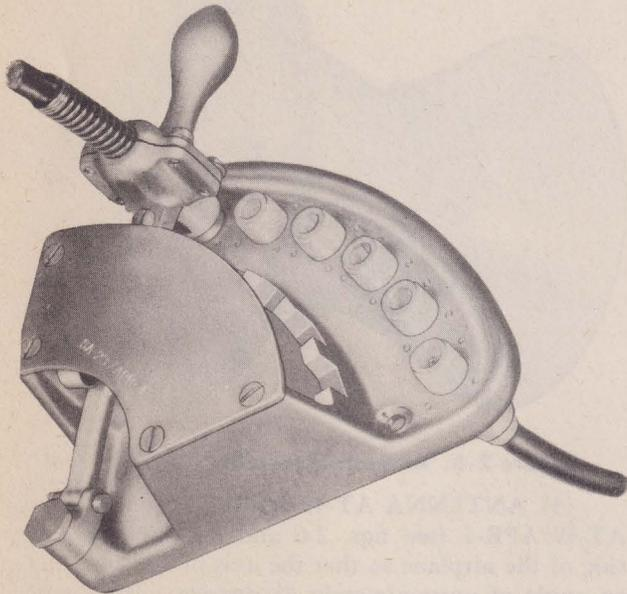

Figure 2-9. Switching Assembly SA-23/APR-4—
(6) ANTENNA STUB AT-38/APT.—Mount Antenna Stub AT-38/APT on the underside of the airplane so that the axis of the stub makes an angle of approximately 45 degrees with the horizontal. When two antennas are used they should be mounted on opposite sides of the ship with the axis of each of them 45 degrees from the horizontal.
(7) SWITCHING ASSEMBLY SA-23/APR-4.—Install Switching Assembly SA-23/APR-4 (see figs. 2-9 and 2-10) at a place convenient to the operator of the receiver.
(a) ANTENNA CABLES TO SWITCHING ASSEMBLY SA-23/APR-4.—Terminate the coaxial cables from the antennas in the fixed portion of the switch as shown in figures 2-9 and 2-10. Terminate the coaxial cable from the receiver in the place provided in the handle of the switch.
*(b)* Select the proper antenna for the frequency range desired (the fan antenna covers 38 to 95 megacycles, Antenna Stub AT-38/APT covers 74 to 300 megacycles, and Antenna AT-49/APR-4 covers 300 to 3300 megacycles) by means of Switching Assembly SA-23/APR-4. (See figs. 2-9 and 2-10.) To do this, raise the hand lever out of its notch and turn it until it is over the notch associated with the proper antenna; then lower the lever into the desired notch.